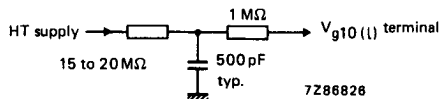

Fig. 9 RC network.
1. These values are valid at cut-off of both flood guns and the writing gun. The HT unit must be capable of supplying 0,5 mA. To protect the tube against excessive surge current during erasure, an RC network as shown in Fig. 9 must be connected in series with the screen terminal lead; the resistance of 15 to 20 M $\Omega$  includes the internal resistance of the HT supply.